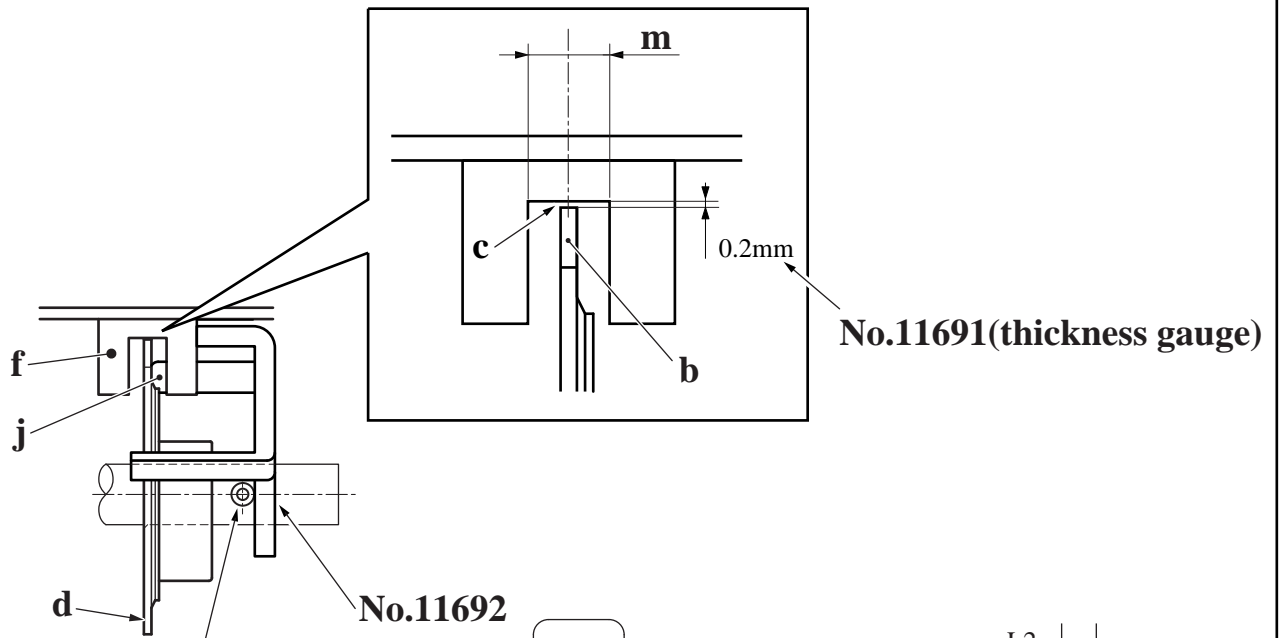

Fig.2
- a) Right side of the Gauge formed a right angle should touch, its inner side, with outside of right part of EN-Sensor.(Fig.2, "h")
- b) Turn the slit-plate in the normal direction until the slit plate stops after left end of projected part of slit-plate touches with left side(inner side) of the gauge formed a right angle as shown in the drawing Fig.2. "i".